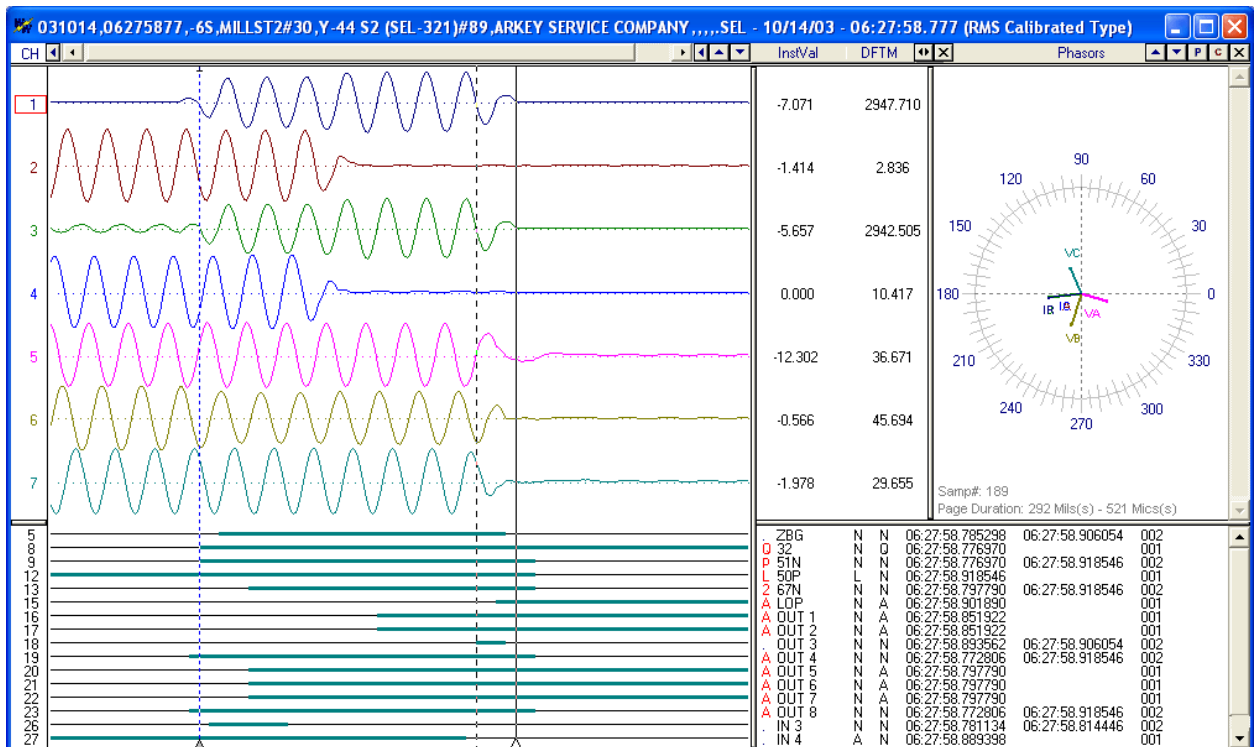

Figure 1.19 Append Waveform Files: Discard Common Times
- Discard Common Times: Any common times found in the marked files will be deleted from the older file. Refer to Figure 1.19.